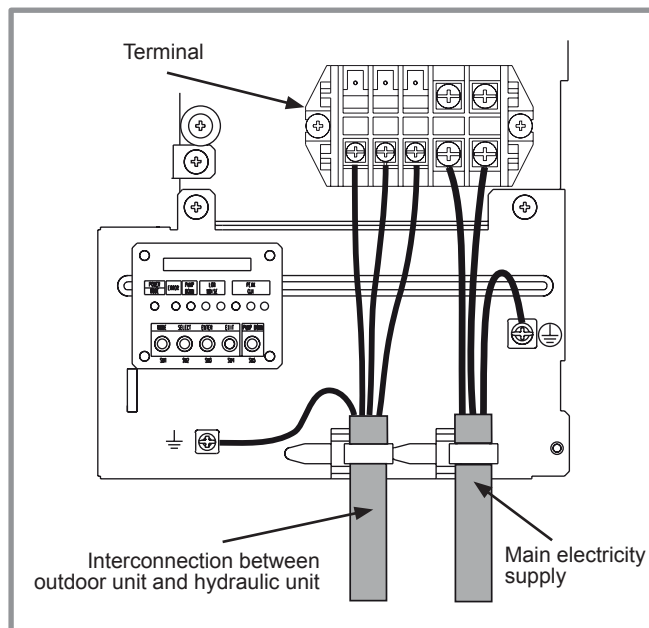
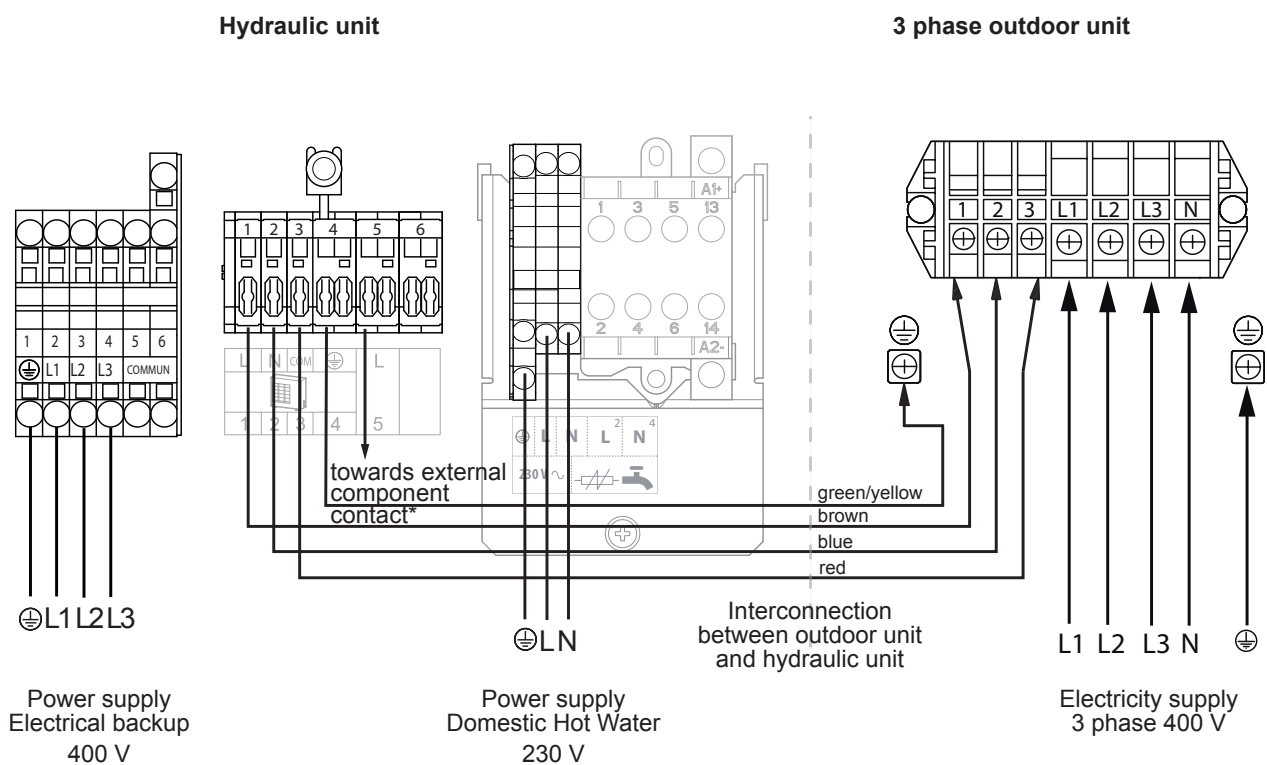

figure 35 - Access to single phase outdoor unit's terminal block
figure 41 - Connection to terminal blocks and power relay
- Make the connections according to the diagram(s) figure 35 and figure 41, page 39.
- Make the connections according to the diagram (figure 41).